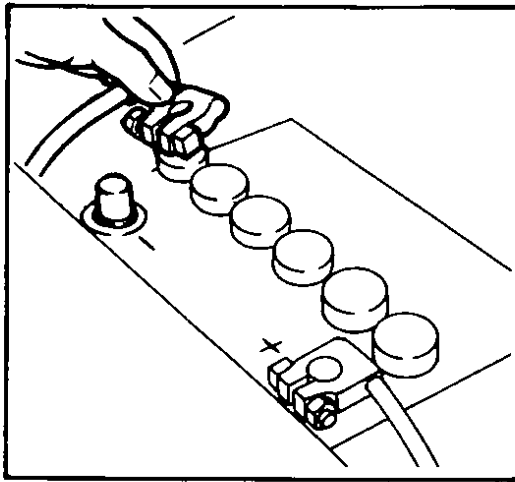

Fig 30 Disconnecting battery ground
- 1 Disconnect the battery ground cable (negative) to avoid the possibility of accidental shorts, Fig 30